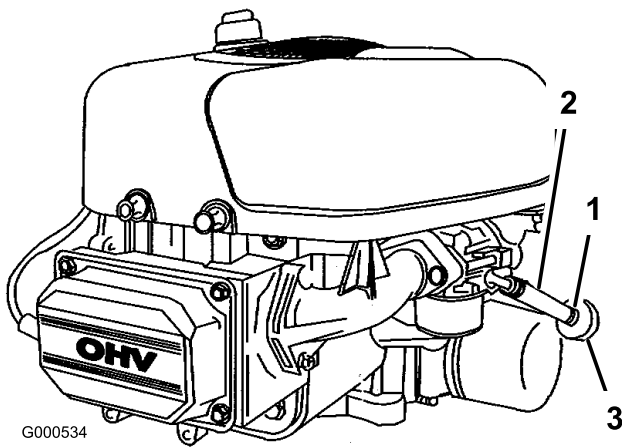

Figure 41
5. Loosen the hose clamp at the fuel filter and slide it up the fuel line away from the fuel filter (Figure 41).
6. Pull the fuel line off of the fuel filter (Figure 41).
8. Install the fuel line onto the fuel filter. Slide the hose clamp close to the fuel filter to secure the fuel line (Figure 41).
4. Squeeze the ends of the hose clamps together and slide them away from the filter (Figure 41).
6. Install a new filter and move the hose clamps close to the filter (Figure 41).